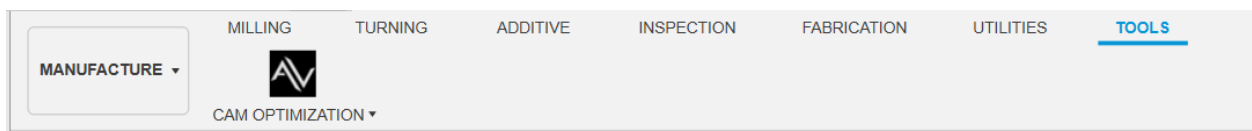

Figure 1: CamOptimization button in the Manufacture Workspace Tools tab
- Confirm the **Optimize CAM by MRR** button is visible (see *Figure 1*).